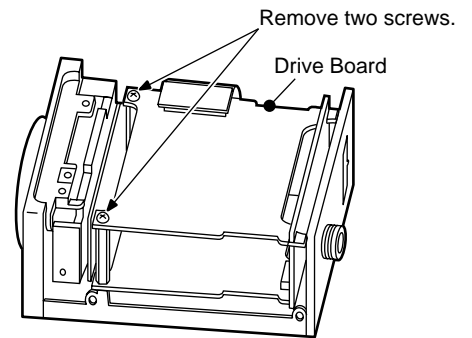

Fig. 2-2
- Referring to Fig. 2-2, remove two screws that secure the Drive Board and remove the Drive Board.